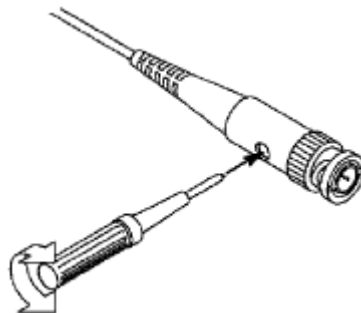

Figure 3-8 Adjust Probe
2. Check the displayed waveforms and regulate the probe till a correct compensation is achieved (see *Figure 3-7* and *Figure 3-8*).